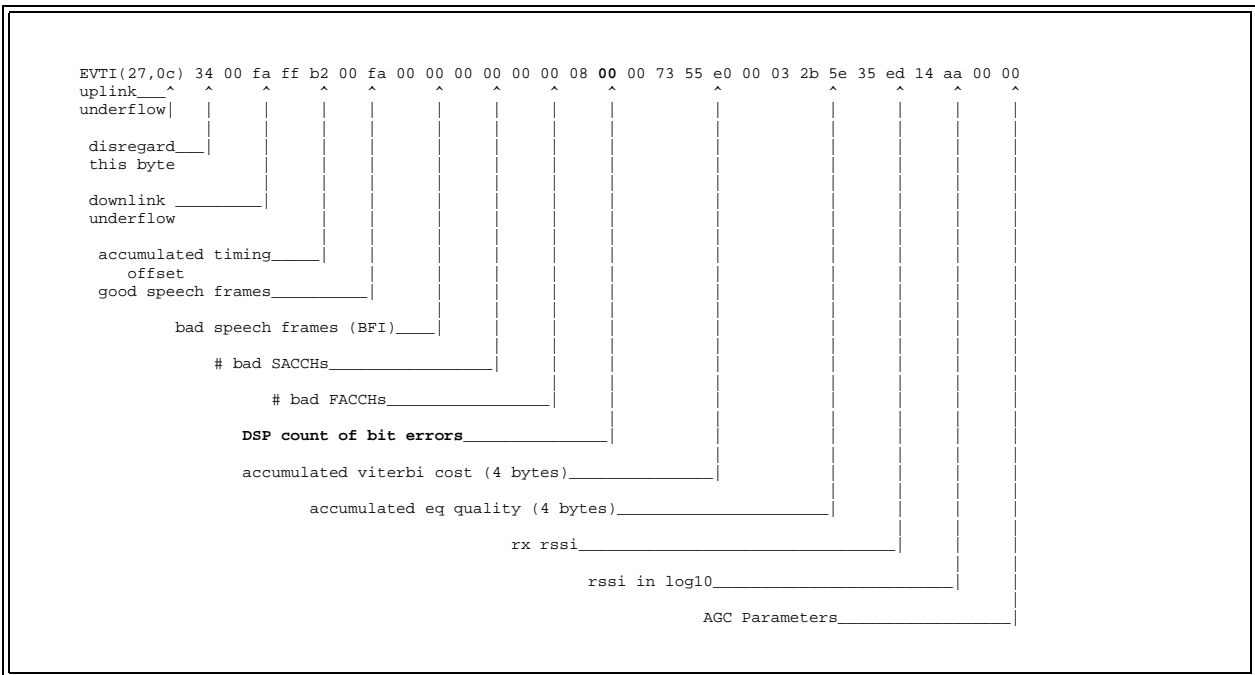

Figure 5-2 Description of DSP Event Indication (EVTI) messages
- 5 Make a call through the BTS. After the initial setup messages, the following log as described in Figure 5-2 will be produced every five seconds for each call in progress. Figure 5-2 shows what each set of bytes means. Note that all of the counters are either two or four bytes, in twos complement.